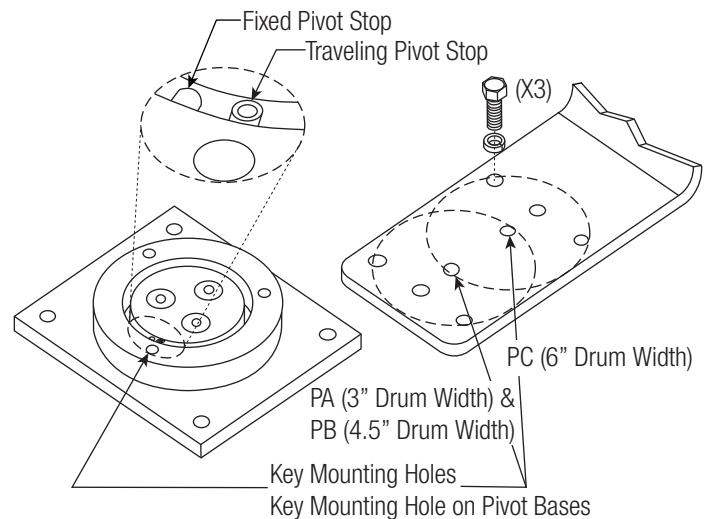

Figure 3-6
- 3.2.2 The PVB Pivot Base has the ability to rotate up to 345° . Travel can be limited to 90° , 180° , or 270° by installing an additional roll pin in the appropriate available hole (see Figure 3-6).